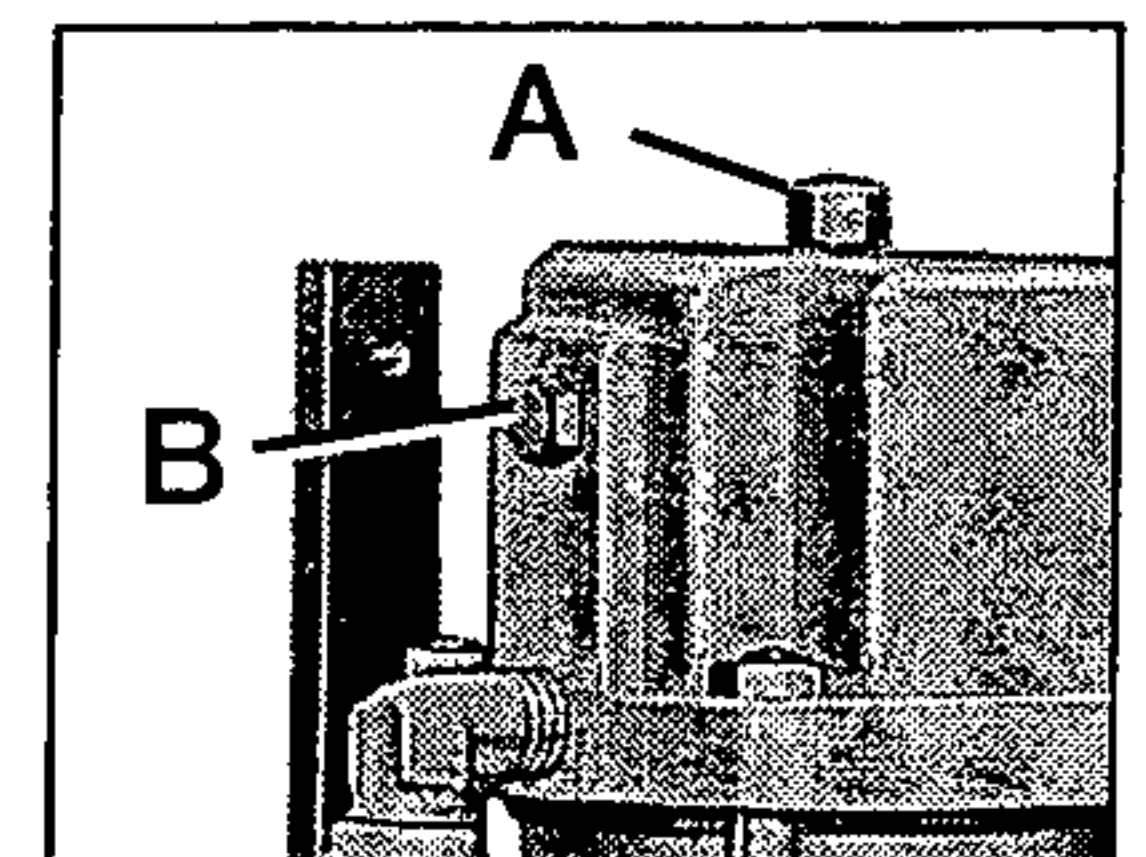

Figure 10
20. Fill lubricator (C) to top of bowl with a good grade of light spindle oil - 80 to 150 SSU viscosity (oil should be thinner than No. 10SAE). DO NOT OVER FILL.
With cylinder at top of stroke, remove top plug (A, fig. 10) and side plug (B).
2. With cylinder at top of stroke, remove plugs (A) and (B, fig. 10).
3. Add #10 premium hydraulic oil until oil runs out plug hole (B). Replace plugs.
8. Remove plugs (A) and (B, fig. 10).
9. Add clean #10 premium hydraulic oil until oil runs out plug hole (B). Replace plugs.